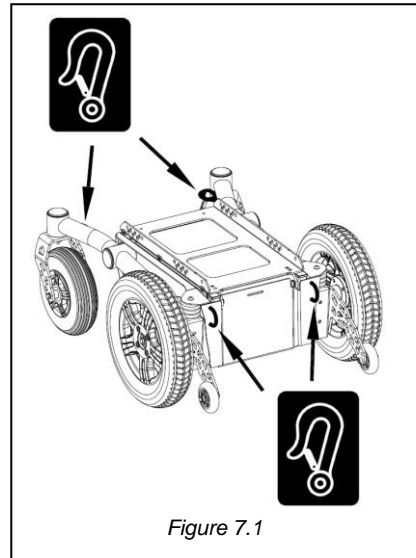

Figure 7.1
Power wheelchairs are very heavy to lift. Use suitable ramps to wheel the chair in and out of the vehicle. Once the wheelchair is in the vehicle, it must be secured with an ISO 10542 approved tie-down system that is suited to the weight of that particular wheelchair. The wheelchair can only be fastened by securing it to the tie-down points on the wheelchair's frame (fig. 7.1).
- The wheelchair can only be fastened by securing it to the tie-down points on the wheelchair's frame (fig. 7.1). The wheelchair may not be secured onto any accessories (wishbones, armrests, anti-tip brackets etc.).
- Use all 4 tie-down points (fig. 7.1).